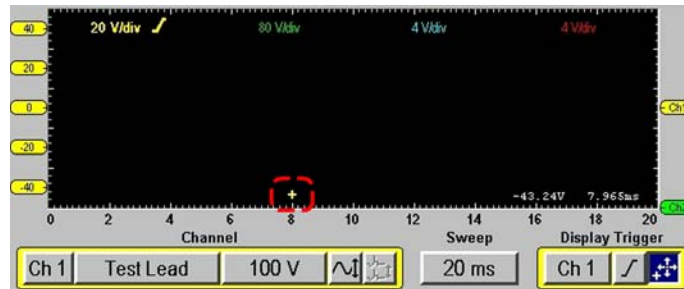

Figure 4-56 Sample channel trigger position marker
- If a Channel trigger (Ch1–4) is selected, a plus-sign (+) colored according to the channel it represents displays in the graph area (Figure 4-56).